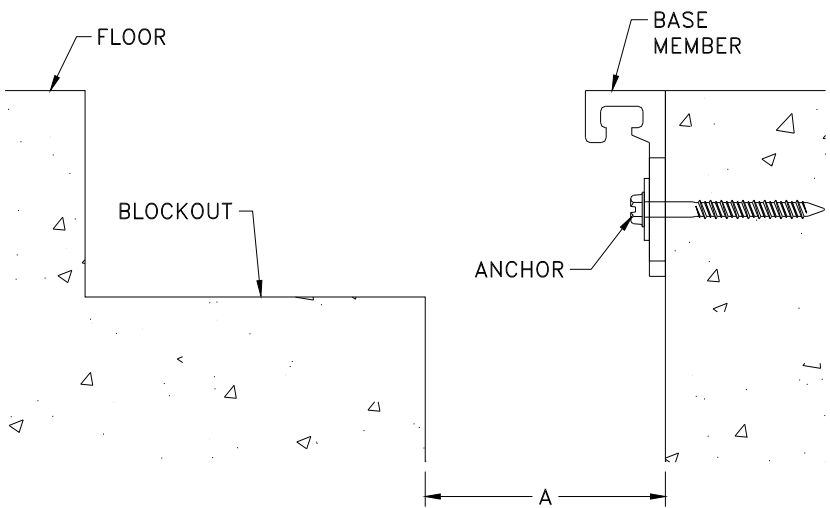

Figure 9
STEP 14. Repeat Step 17 through Step 20 above for each subsequent section of the base member assembly (see Figure 9).